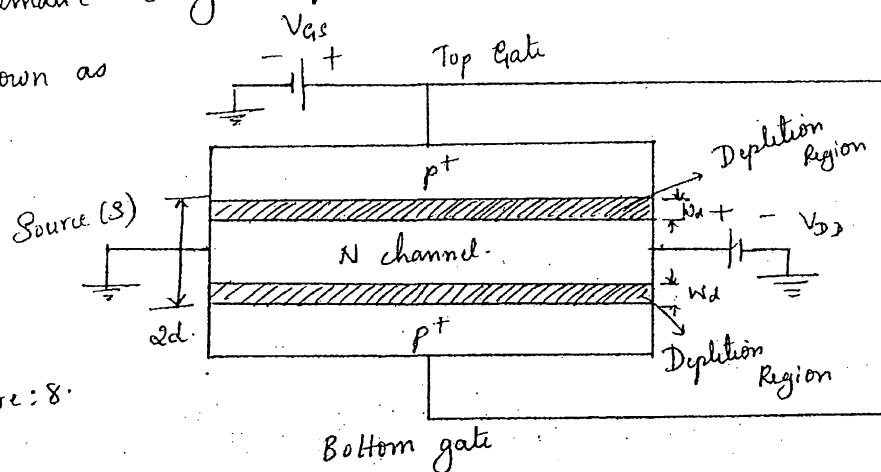

Figure: 8.
- If gate to source voltage $V_{GS} = 0$ and drain to source voltage V_{DS} is very small value (about zero) the reverse bias across p^+N junction is constant and the thickness of the depletion region across the p^+N junction is uniform. as shown in figure 8